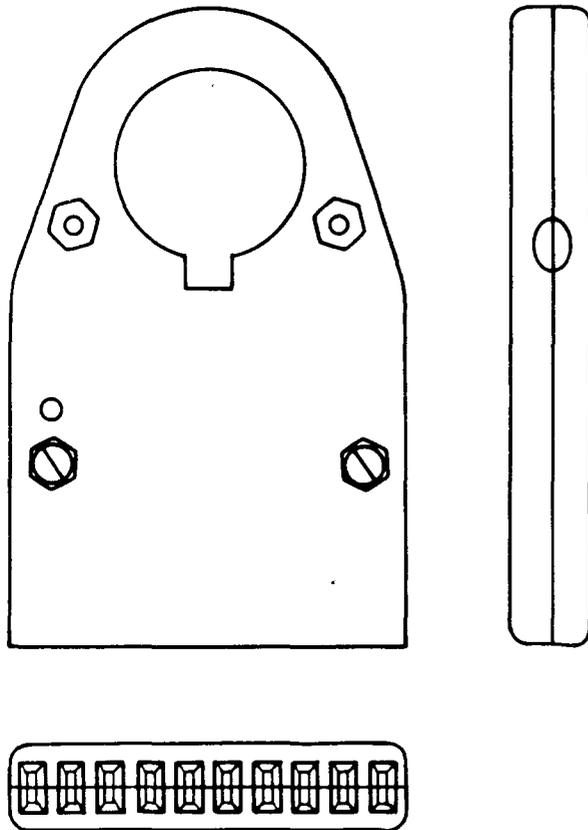

Fig. 2—961A, B, or C Connector
2.02 **961A, B, and C:** The 961A, B, and C connectors (Fig. 2) consist of a 10-contact vertical plug-on unit with dual cable entrances and four indexing pits. Each connector has a ganging groove and a finger pull ring.